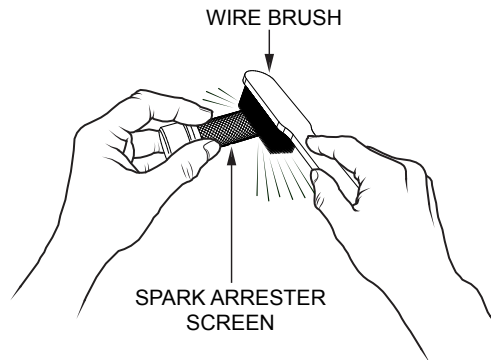

Figure 31. Cleaning The Spark Arrester
4. Carefully remove carbon deposits from the spark arrester screen (Figure 31) with a wire brush.